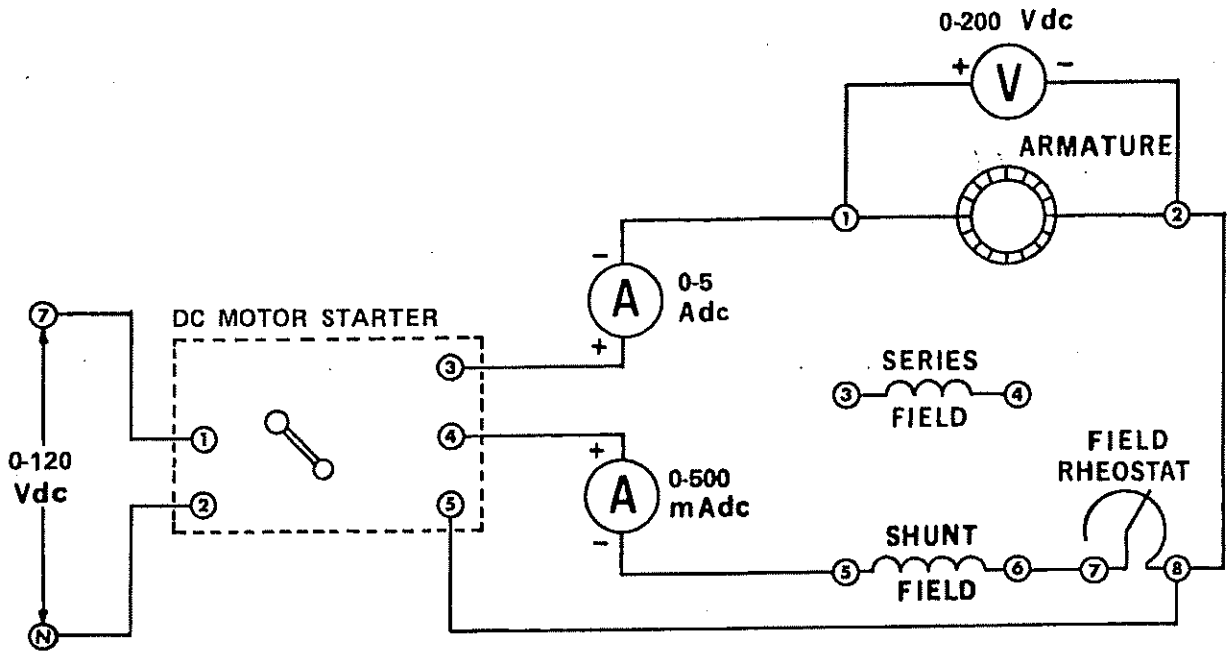

Figure 10-1.
- 2. a. Using your Power Supply, Manual DC Motor Starter, DC Voltmeter/Ammeter and DC Motor/Generator, connect the circuit shown in Figure 10-1.